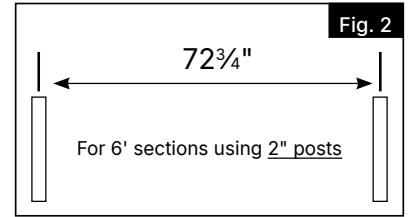

Fig. 2
- For 6' sections using 2" posts: measure $72\frac{3}{4}$ " from the center of an end point and mark with stake (Fig. 2).